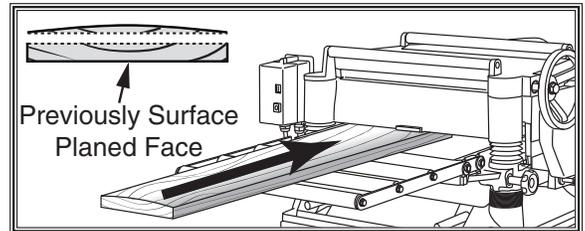

Figure 25. Surface plane on a thickness planer.
2. **Surface Plane on a Thickness Planer:** The opposite face of the workpiece is surface planed flat with a thickness planer (see Figure 25).